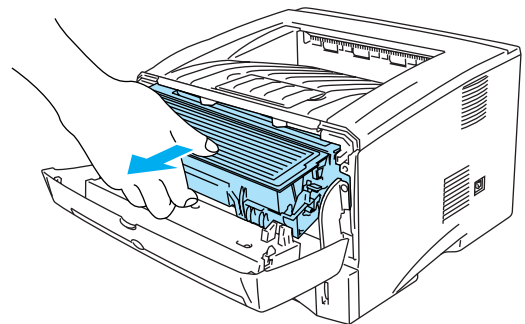

Fig. 5-2
- (1) Press the cover release button; and then open the front cover of the printer.
- (2) Pull out the drum unit assembly. (Fig.5-2)